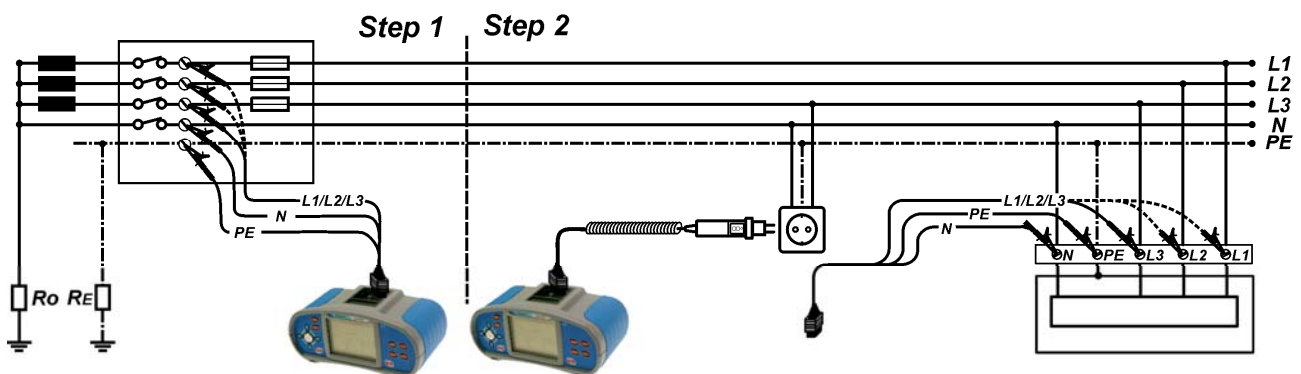

Figure 5.25: Phase-neutral or phase-phase voltage drop measurement – connection of plug commander and 3-wire test lead
- ❑ **Connect** the test leads to the origin of electrical installation (see figure 5.25).
- ❑ **Connect** the test leads to the tested points (see figure 5.25).